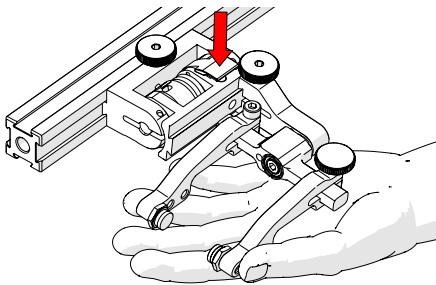

Fig. 46 - Lift slightly and press Latch
2. Lift the probe holder slightly and press the latch button (Fig. 46) to release the probe holder to the full 45° degrees.